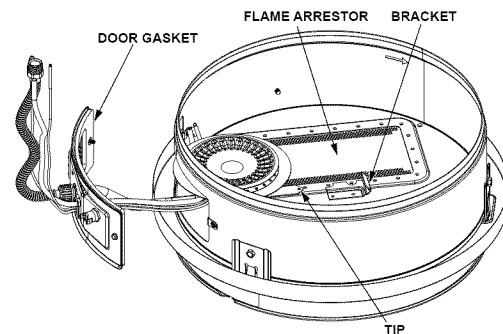

FIGURE 37.
4. Insert the manifold/burner assembly into the burner compartment, making sure that the tip of the manifold tube engages in the slot of the bracket inside the combustion chamber (Figures 37 & 38).